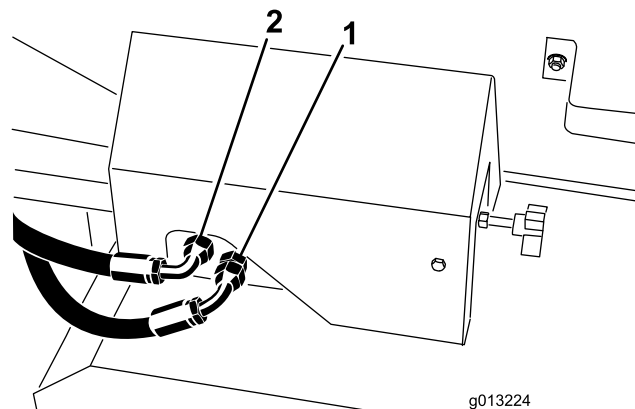
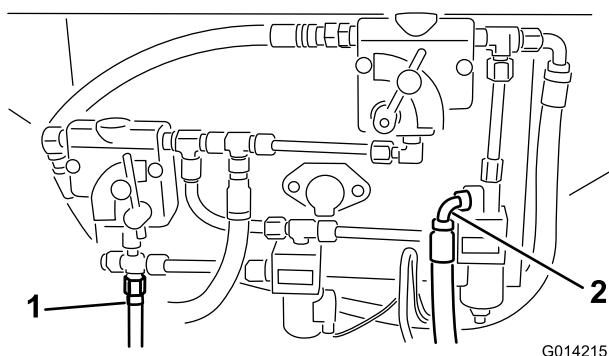
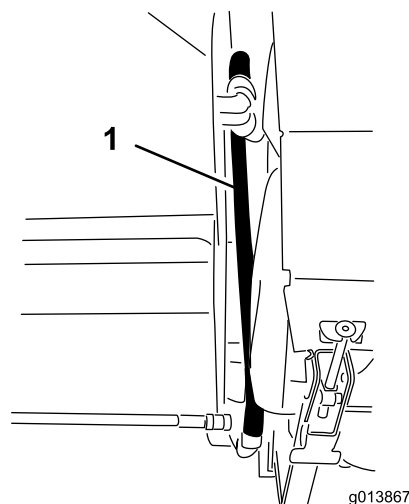
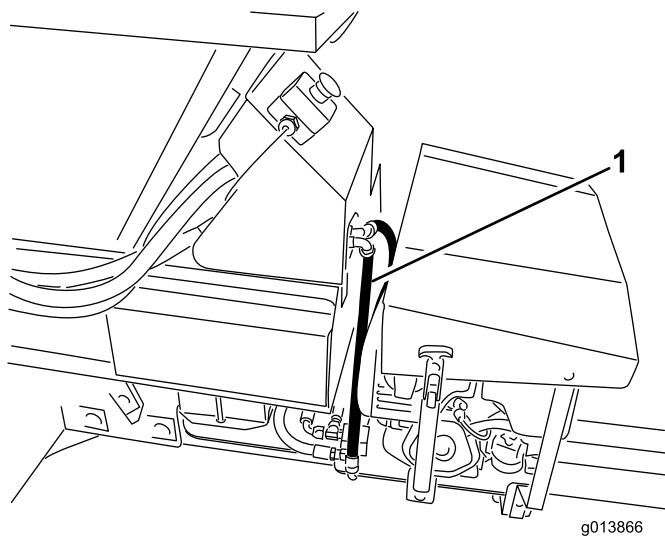

Figure 15
Figure 14
Figure 16
Figure 17
39. Identify the pressure and return connections on the ProPass base model. Refer to Figure 14 for the SH versions and Figure 15 for the EH versions.
40. If pressure and return hoses were previously installed at the locations shown in Figure 14 and Figure 15, remove them.
41. Connect the hydraulic hoses to the hydraulic control panel. Refer to Figure 14 and Figure 16 on the SH versions and Figure 15 and Figure 17 on the EH versions.